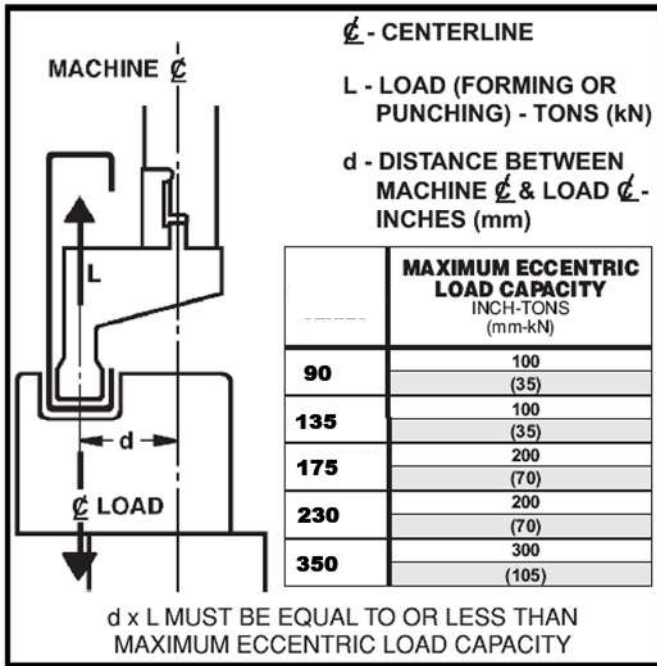

FIGURE 4-4 Eccentric Load Capacity
Occasionally special forming setups are made which do not have the load centered on the bed and ram front-to-back centerline. When this condition exists, care must be taken not to exceed the maximum eccentric (front-to-back) load capacity of the machine. See Figure 4-4.
To determine the available tonnage at a point between the machine centerline and either housing, the ratios shown in Figure 4-4 can be used. A 175XF10 press brake is approximately 128" (3251 mm) from housing to housing (L). A point at .3 of this length is 38.4" (975 mm) (.3 x 128"/3251 mm). At 38.4" (975 mm) from the centerline of the machine, 62% (108.5 tons, 1064 kN) of the full tonnage is available.